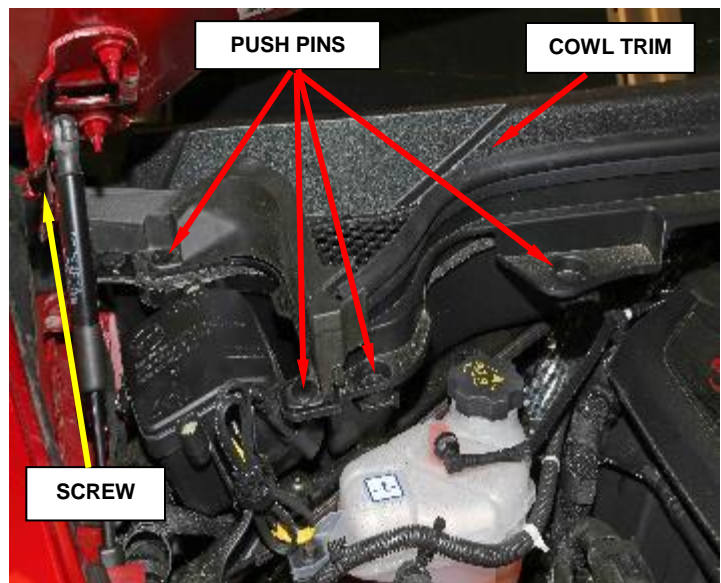

Figure 7 – Windshield Frame Trim Mounting Push Pins
- h. Working on the right side of the windshield cowl trim, remove the four push pins and screw (Figure 7).